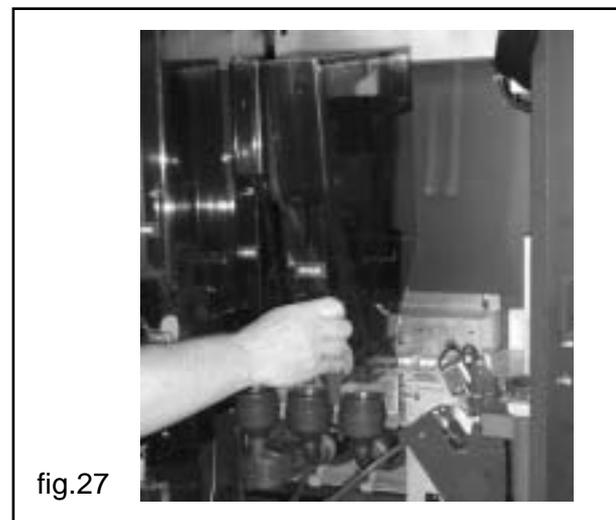

fig.27
- product containers can be loaded without taking them out of their housings; should it be necessary to take them out, close the sliding door that is mounted on the product channel outlet (fig.27). Especially in case of coffee beans, the sliding door of the hopper must be closed before removing the container.